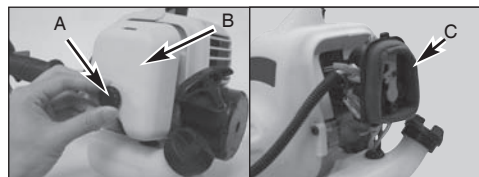

Fig. 7
1. Remove knob (A) holding air filter cover in place, remove cover (B) and lift filter (C) from air box (Fig. 7)